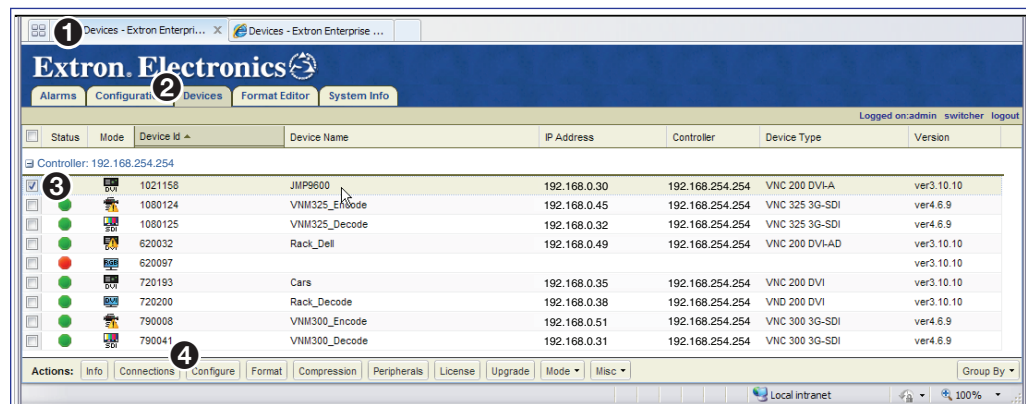

Figure 139. Devices Page
3. **Click the left tab** (see figure 139, ❶). Select the **Devices** page (❷) and choose a VN-Matrix 2xx series decoder from the device list (❸). A checkmark appears in the checkbox to the left of the decoder row.